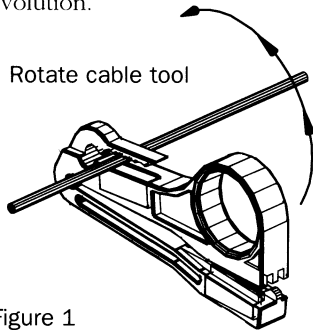

Figure 1
1. Determine the length of jacket to be removed and insert cable into the stripping area as shown in figure 1.